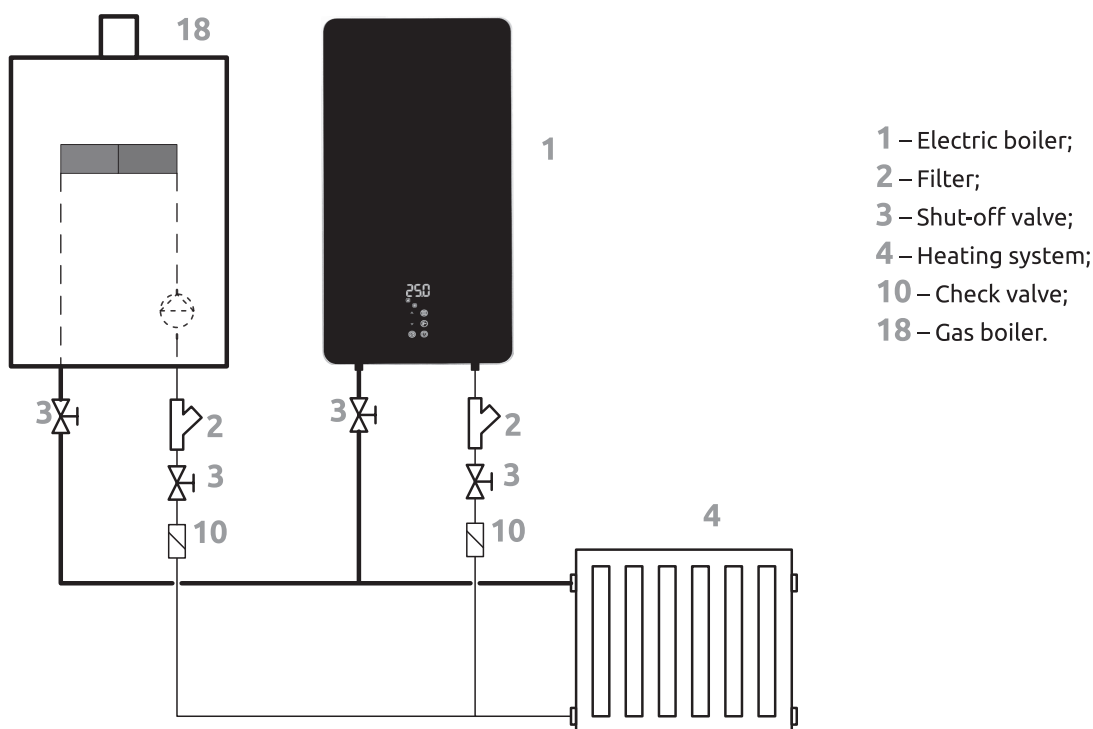

Figure 24 - Wiring diagram of gas and electric boilers.
5.8.1 When connecting an ESPRO electric boiler with other heat sources (see Figure 24 - 25), the electric boiler is used as a backup heat source, for example, it can operate at night at a reduced rate of electricity tariff (if the consumer has multi-tariff metering).